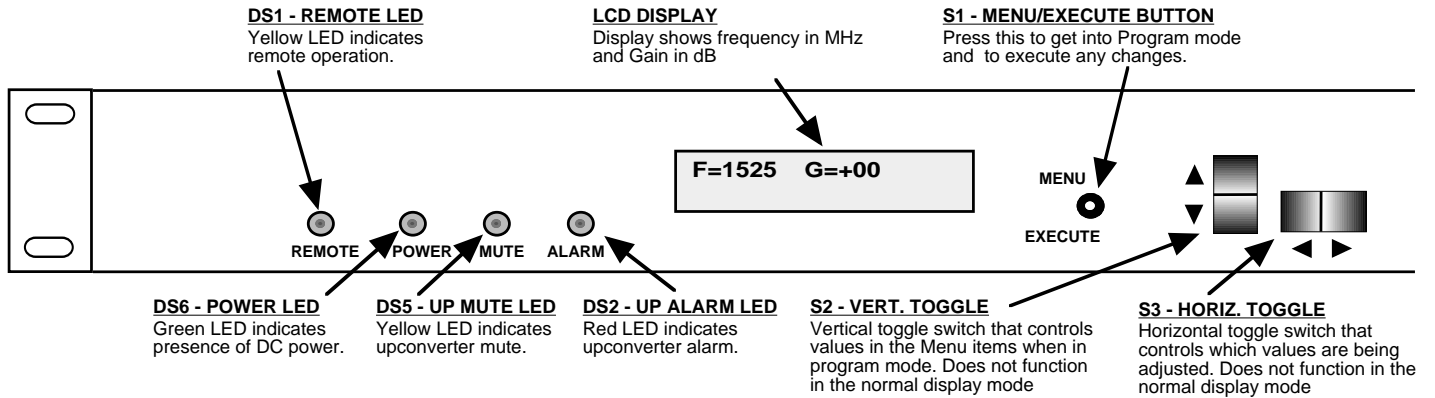

FIGURE 2.2 2015-0925 Front Panel Controls and Indicators
Figure 2.2 shows the front panel controls and indicators.
7. Be sure DS6 (green, DC Power) is on and DS2 (red, Alarm) is off (Figure 2.2).
Alarm indications appear on the LEDs (see Figure 2.2).